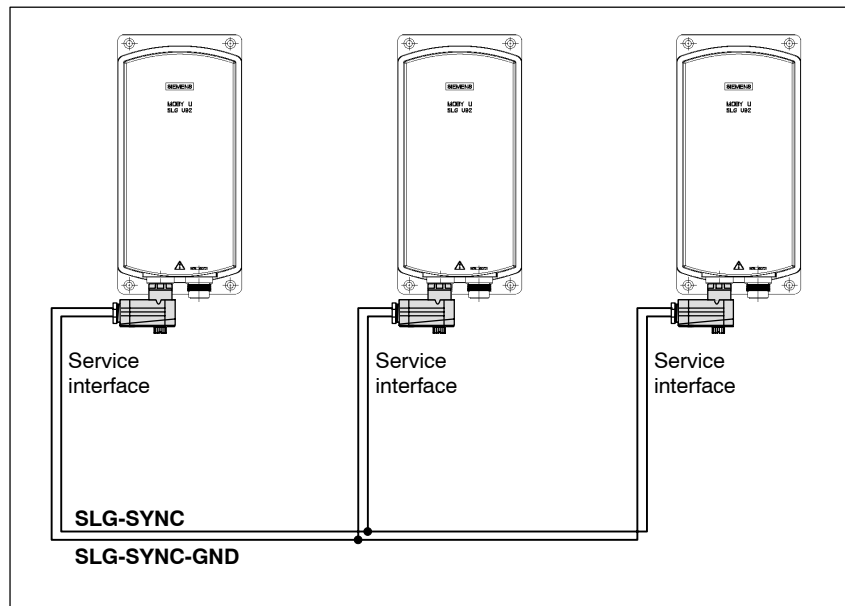

Figure 3-52 Three SLGs connected for synchronization
- The SLG-SYNC and SLG-SYNC-GND connections at the service interface must be interconnected with the connection cable for synchronization (see Figure 3-52 and Section 3.10.4).
3. Connect the SLGs that are to be synchronized via the service interface with the synchronization cable (see Figure 3-52 and Section 3.10.4).